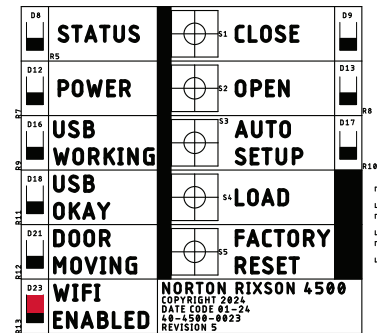

Figure 5
- The red WIFI ENABLED LED on the operator's control board will indicate that WiFi has been successfully turned on. (This will only be visible if the operator cover has been removed.) (Figure 5)